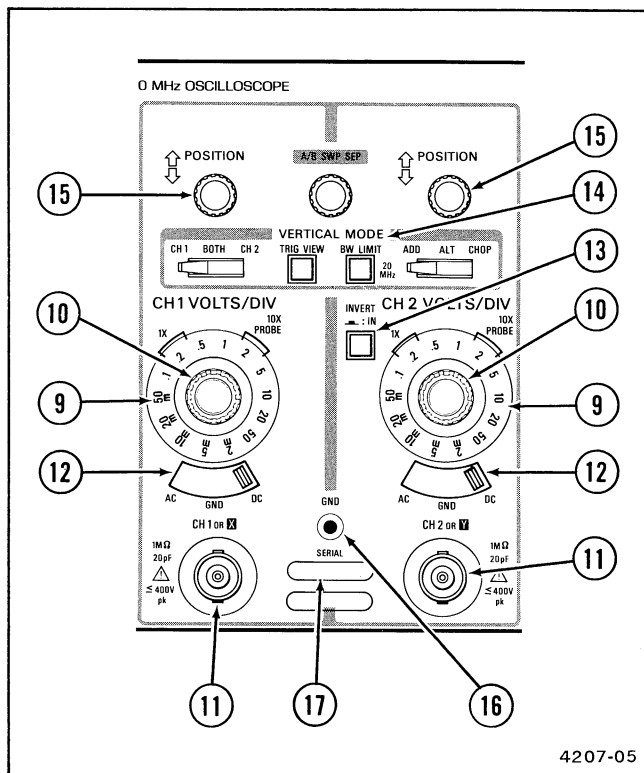

Figure 2-4. Vertical controls and connectors.
Refer to Figure 2-4 for location of items 9 through 17.
- ⑨ **CH 1 VOLTS/DIV and CH 2 VOLTS/DIV Switches**—Used to select the vertical deflection factor in a 1-2-5 sequence. To obtain a calibrated deflection factor, the VOLTS/DIV variable control must be in the calibrated (CAL) detent (fully clockwise).